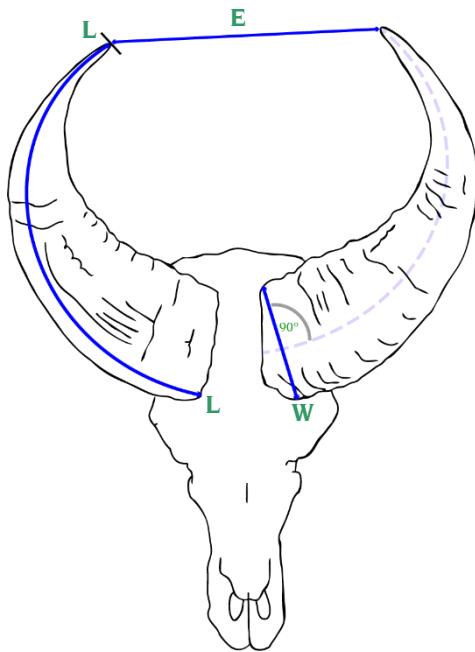
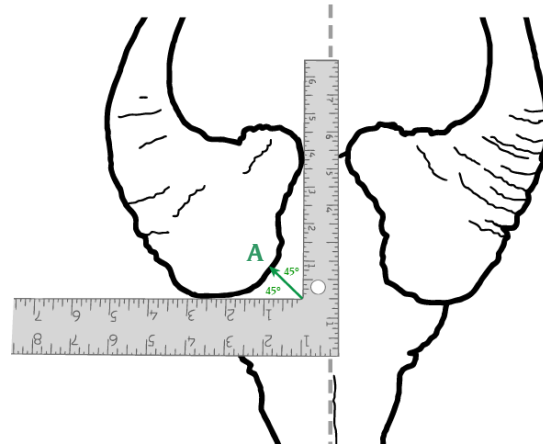

Figure 1
Figure 2
1. Length. Measure the length of each horn on the outside curve. Start in the front and measure along the front edge, keeping to the outside surface and continuing to the tip. (Figure 1) To find the starting point (L), lay the long leg of a carpenter's square against the bottom most part of the boss and place the shorter leg of the square against the inner part of the boss between the horns. Make sure the short leg is exactly parallel to the axis of the skull. (Figure 2) Now divide the 90-degree angle into half (45 degrees) and mark this spot on the edge of the boss. This is the starting point for the length measurement; keep to the outside surface and continue to the tip. (Figure 1)